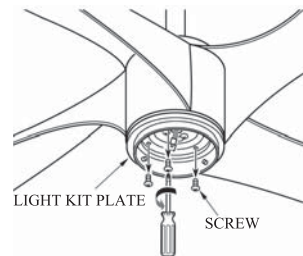

FIG.18
3. Remove 3 screws from light kit plate. ( Do not discard ) ( See Fig.18 )